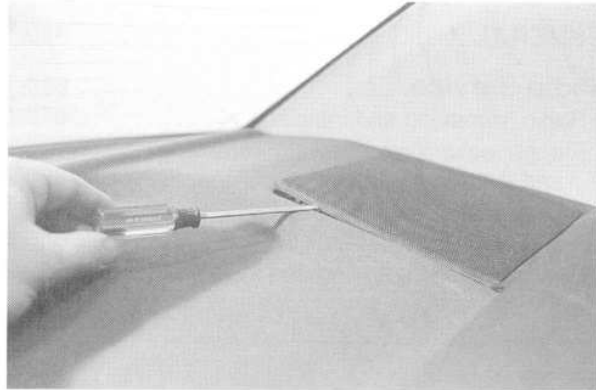

Fig. 4. Pry up inner edge of speaker cover.
1. Remove speaker cover by prying up inner edge. See Fig. 4.